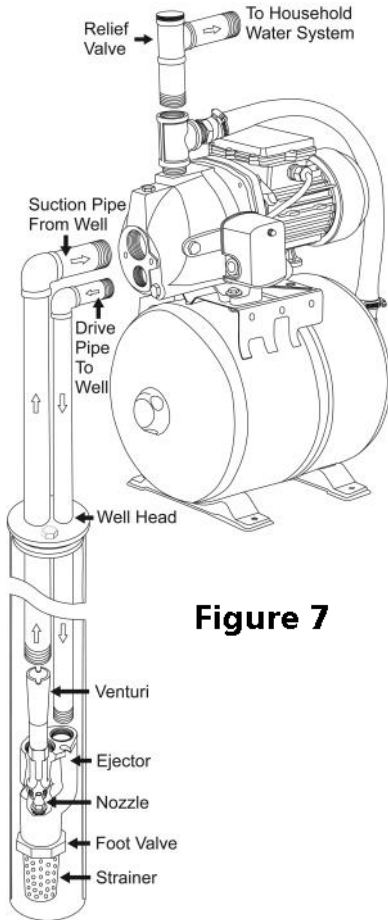

Figure 7
2. Connect the drive pipe and suction pipe to the deep well ejector as shown in Figure 7.